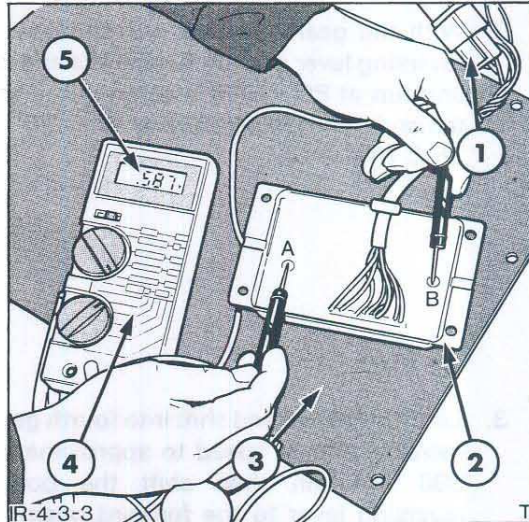

Figure 3
- Set the digital voltmeter to the low D.C. volt range and connect across the test pins as shown in Figure 3.